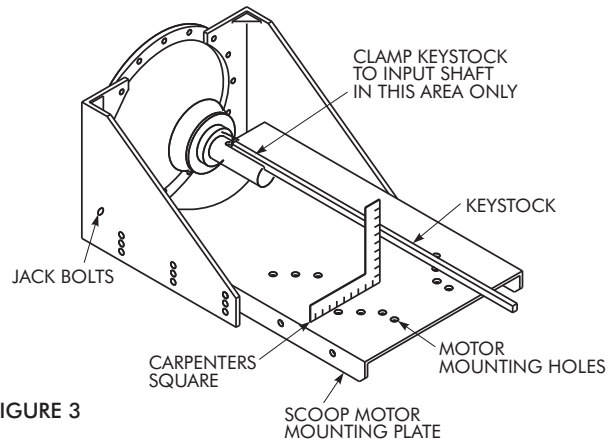

FIGURE 3
a. Centering (Reference Figure 3)